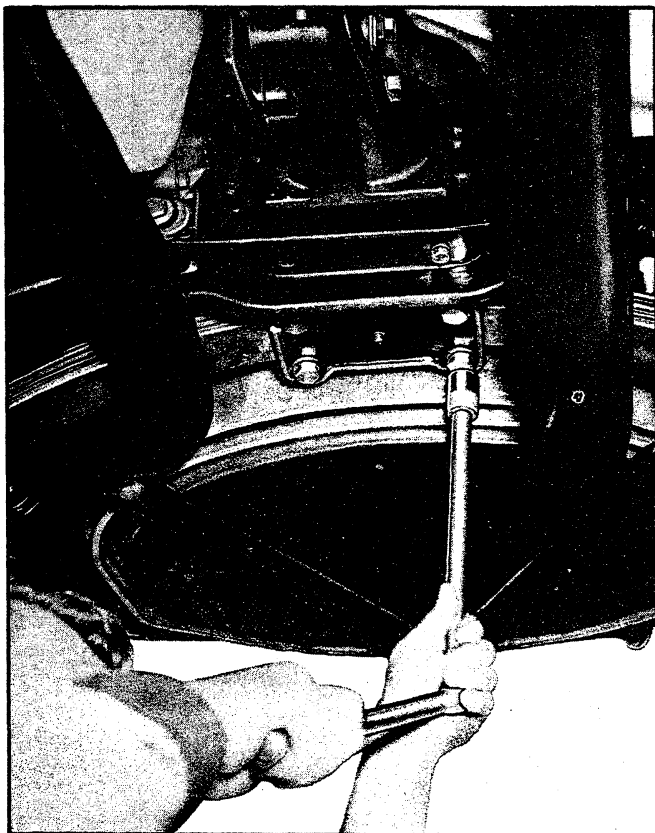

Fig. 58—Removing Clamp Plate (Corvette)
8. Remove four bolts and washers securing spring center clamp plate (fig. 58).